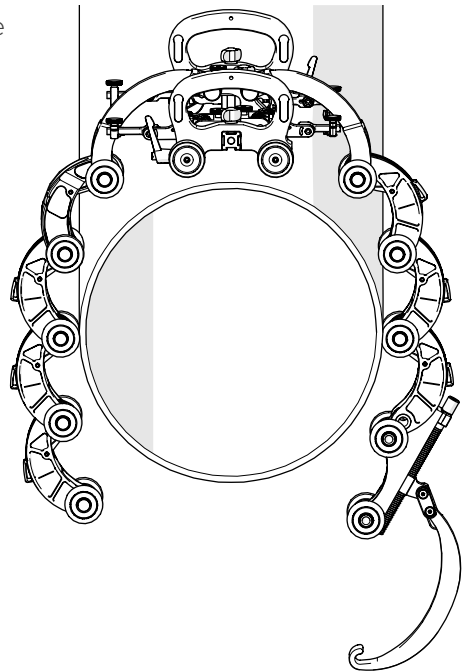

Fig. 107 - Place on pipe
5. Drape the configured assembly around the pipe/tube to be inspected (Fig. 107). Ensure the scanner's double wheel chain links straddle the weld.